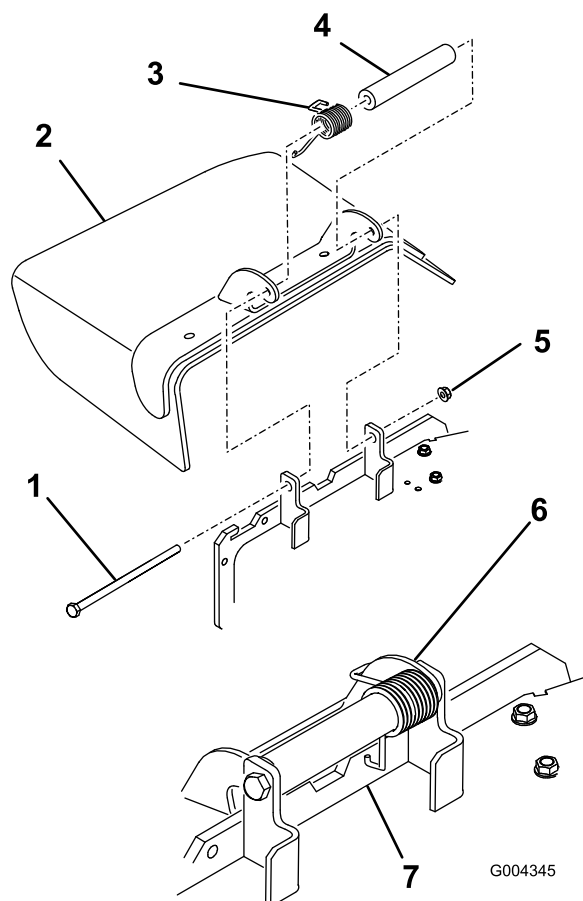

Figure 59
1. Remove the locknut, bolt, spring and spacer holding the deflector to the pivot brackets (Figure 59). Remove the damaged or worn grass deflector.
Note: Make sure the end of the spring is installed behind the deck edge before installing the bolt as shown in Figure 59.
3. Install the bolt and nut. Place the end of the spring around the grass deflector (Figure 59).